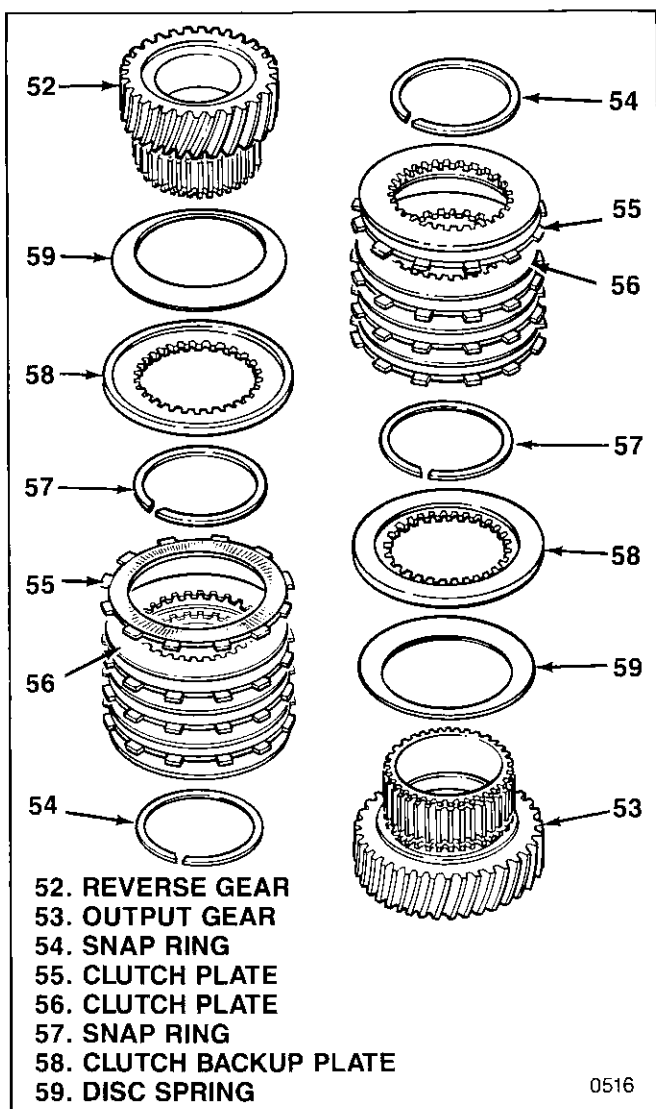
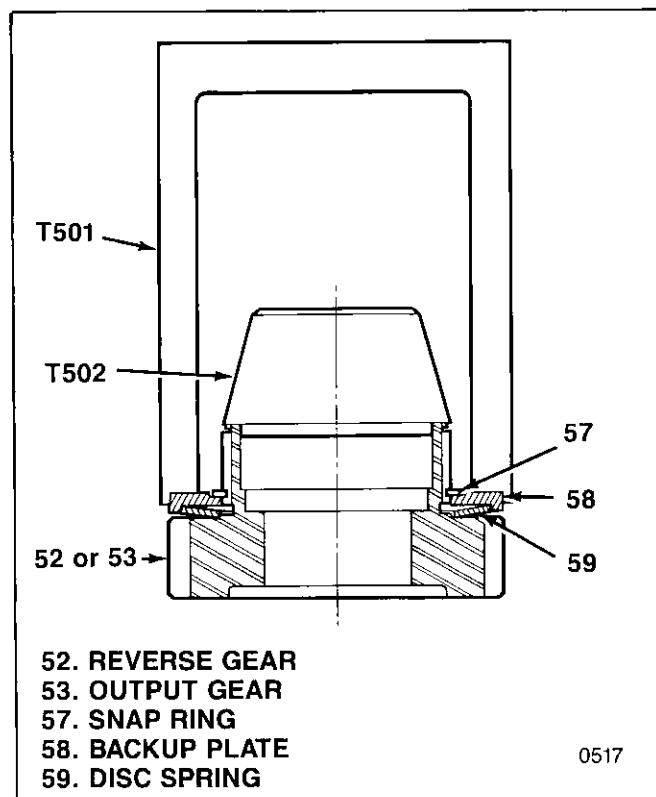

Figure 5-3. Gear and Clutch Plate Groups
Figure 5-4. Installing Gear Snap Ring
5-6. ASSEMBLY OF GEAR AND CLUTCH PLATE GROUPS. Clutch plates and related parts (54 through 59) are assembled to output gear (53) or reverse gear (52) in the same manner. Proceed as follows for each gear and clutch plate group (see figure 5-3):
1. Place gear (53 or 52) on work surface, splined end up, and position disc spring (59) on gear, concave side up.
2. Position clutch backup plate (58) on disc spring (59).
3. Use compression tool T-501 on clutch backup plate (58) in arbor press to compress disc spring (59) (see figure 5-4). Fit expander T-502 over end of gear hub (see figure 5-4) and install snap ring (57) in groove in gear (53 or 52) next to clutch backup plate.
4. Starting with clutch plate (55) alternately place five clutch plates (55) and four clutch plates (56) on each gear (53 or 52).
5. Install snap ring (54) in groove in gear (53 or 52) furthest from gear end. Outer clutch plate (55) will be loose—not retained by snap ring—on each clutch plate group.